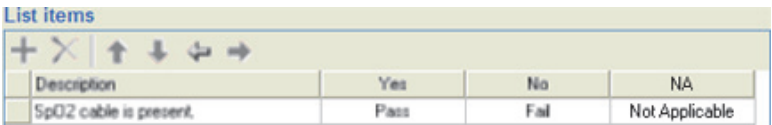

Figure 3-34. New Status for One Checklist Option
8. Click on the menu item labeled Not Applicable to update the status. See Figure 3-34.